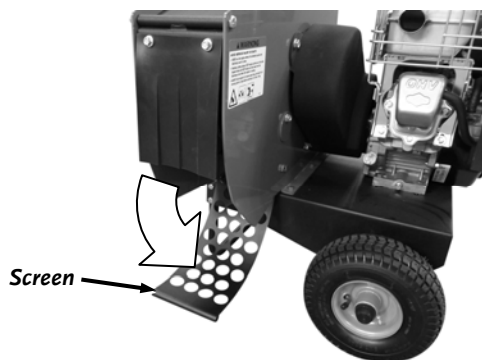

Figure 27
2. Rotate the Screen down to gain access to the Cutting Chamber (**Figure 27**).